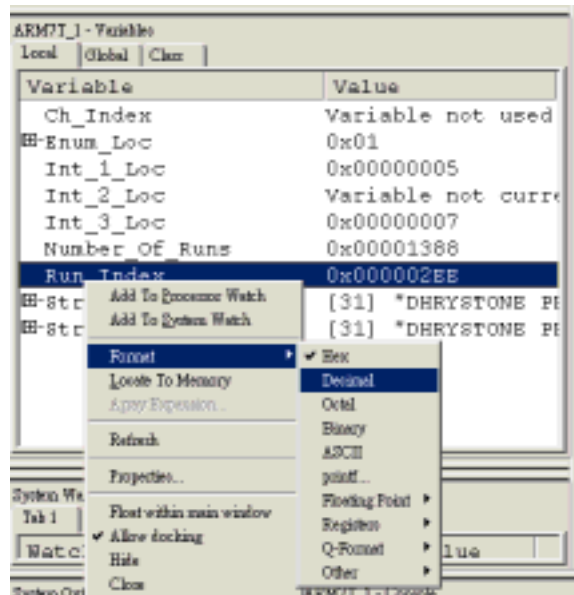

Figure 8. Pop-up menu for Local variable in Processor View.
- 7.2 Right-click on the variable so that it is selected and a pop-up menu appears (Figure 8). Select **Format** **Decimal** and the value is now displayed as 750 (decimal).
8. Explore the various display options available from the pop-up menu (Figure 8). Try some other settings in both the **Format** submenu and the **Default Display Options** dialog displayed when you select **Properties**....